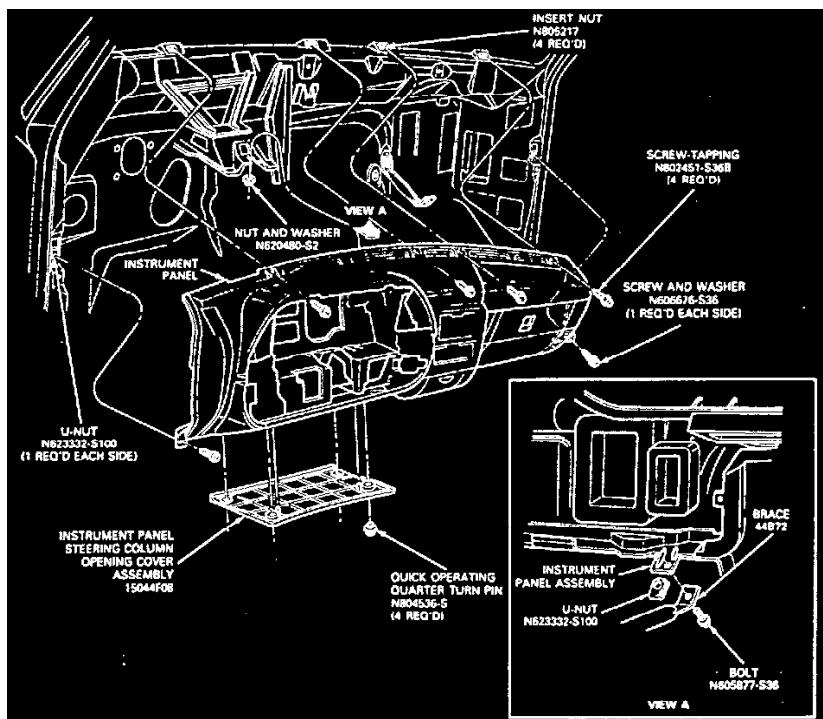

Fig. 4 Exploded View Of Instrument Panel, 1988-91 Bronco & F-Series.
3. Remove instrument panel to instrument panel brace bolt, **Fig. 4**.
8. Remove screws securing instrument panel to dash panel, **Fig. 4**.